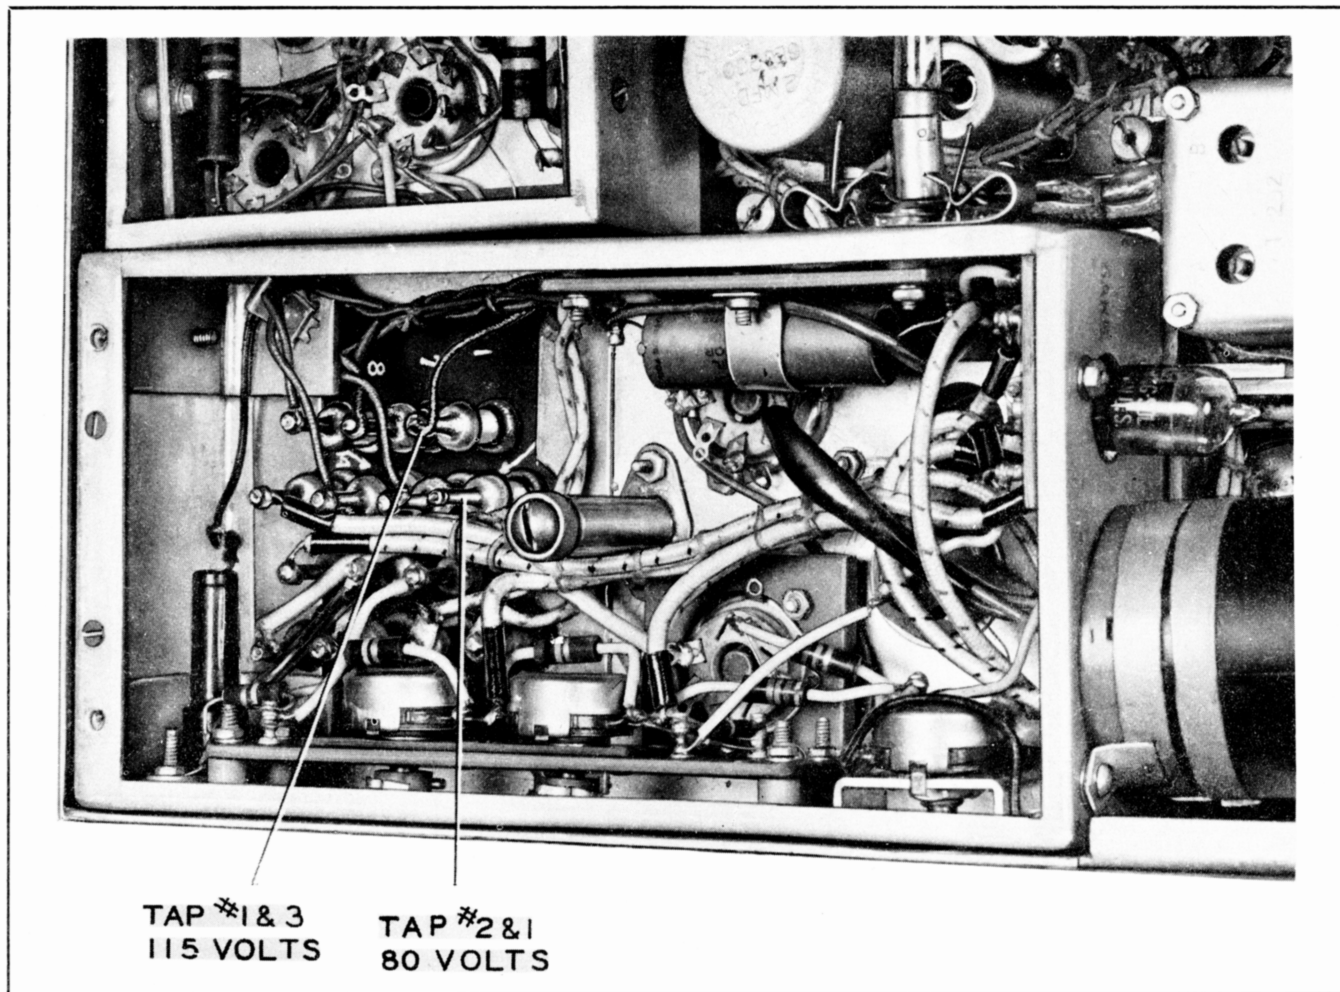

Figure 2-1. Power Transformer Taps
- (1) Remove Indicator ID-60/APA-10 from its case.
- (2) Remove dust cover from chassis No. 5.
- (3) Set transformer tap to correspond to the input voltage. (Use tap numbers 1 and 2 for 80-volt source; tap numbers 1 and 3 for 115-volt source.) (See fig. 2-1.)
- (4) Replace cover of chassis No. 5.